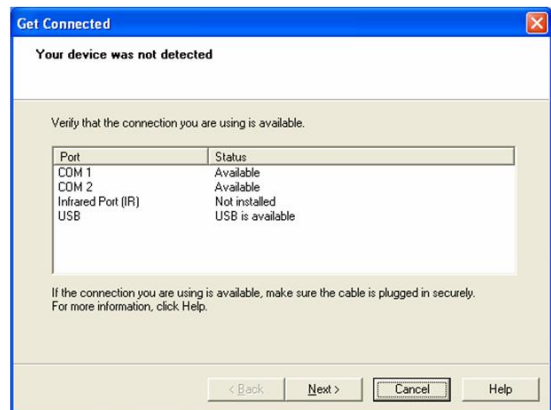

Figure 5-7 Port search screen
- ② Wait until "port search" process is completed. Enter "your device not detected" screen as shown Figure 5-7. Click "Cancel" button, the synchronization software will search for the XC2900-F6C.